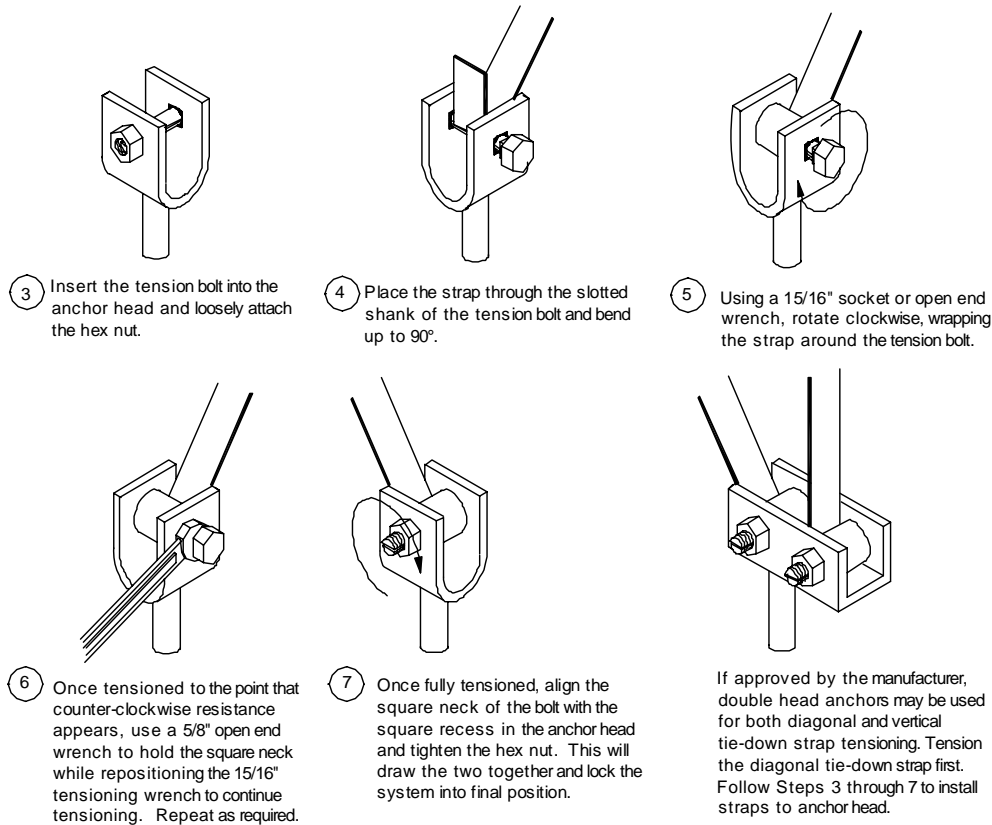

Figure 79. Procedure for connecting the strap to frame and anchor
2. **Connect strap to anchor.** Connect the other end of the strap to the split bolt in the anchor. Leave enough strap length to be able to make at least three, but no more than five complete turns around the bolt before it becomes tight (approximately 2 1/2 inches per turn or 7 1/2 to 13 inches total). Fewer than three turns and the strap may not hold onto the bolt when force is applied. Conversely, more than five turns may not fit within the U-channel of the anchor head. Follow the procedure outlined in **Figure 79**.